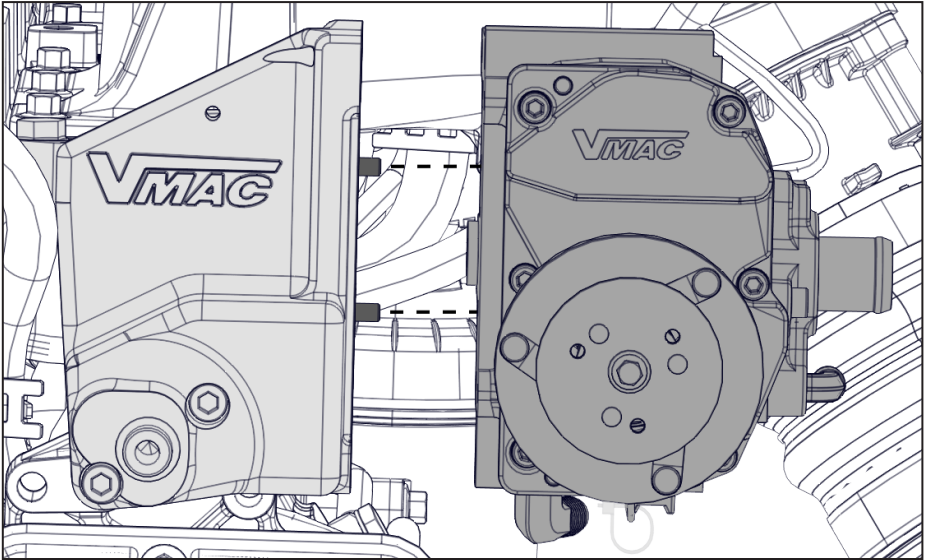

Figure 11 — Mounting the compressor
- Mount the compressor onto the main bracket (Figure 11).